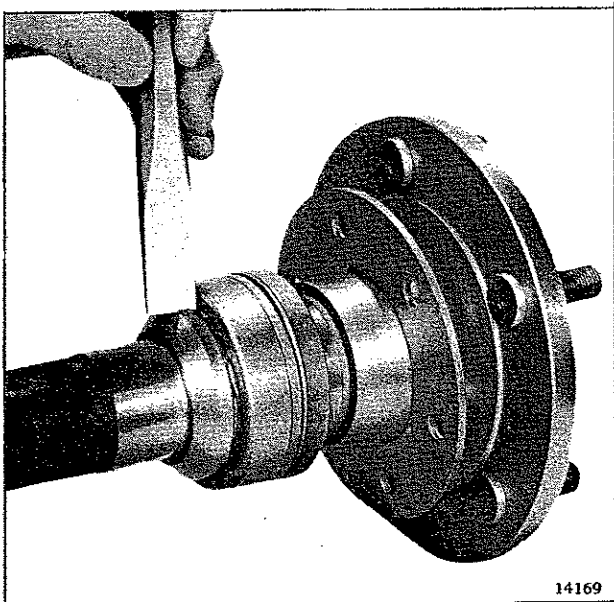

FIG. N-9—NOTCHING BEARING RETAINING RING
h. Position the axle shaft assembly in a heavy vise and using a chisel cut a deep groove into the retaining ring. This will enlarge bore of retaining ring, or split the ring and permit it to be driven off of axle shaft. Refer to Fig. N-9.